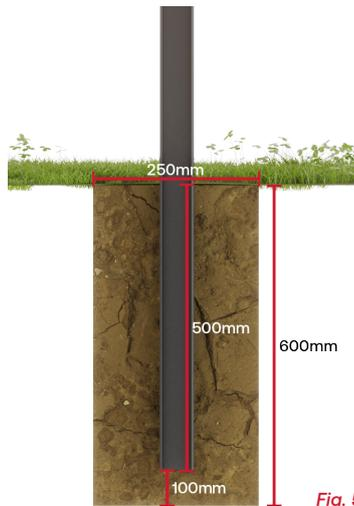

Fig. 5
2. Post hole depth will vary depending on ground conditions and fence height. All post holes should be at least 250mm in diameter, 600mm deep, and should be straight, with the sides either parallel, or wider at the bottom than the top. *Fig. 5*